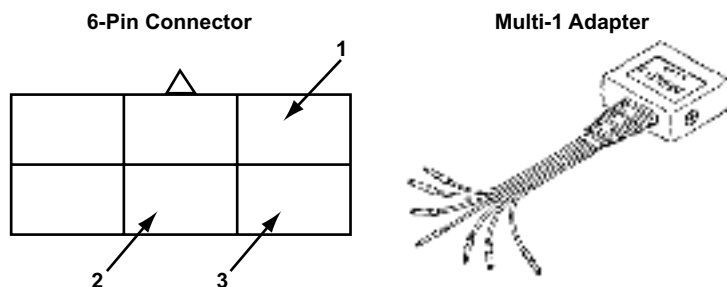

Figure 6-2 Daihatsu Rocky 6-pin diagnostic connector and MULTI-1 adapter
- Connect the MULTI-1 adapter with black terminal converters to the 6-pin connector located near the battery with a gray cover (Figure 6-2).